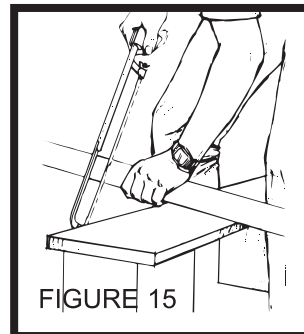

FIGURE 15
8. Refer to Figure 15. Cut tubing, keeping cut square.